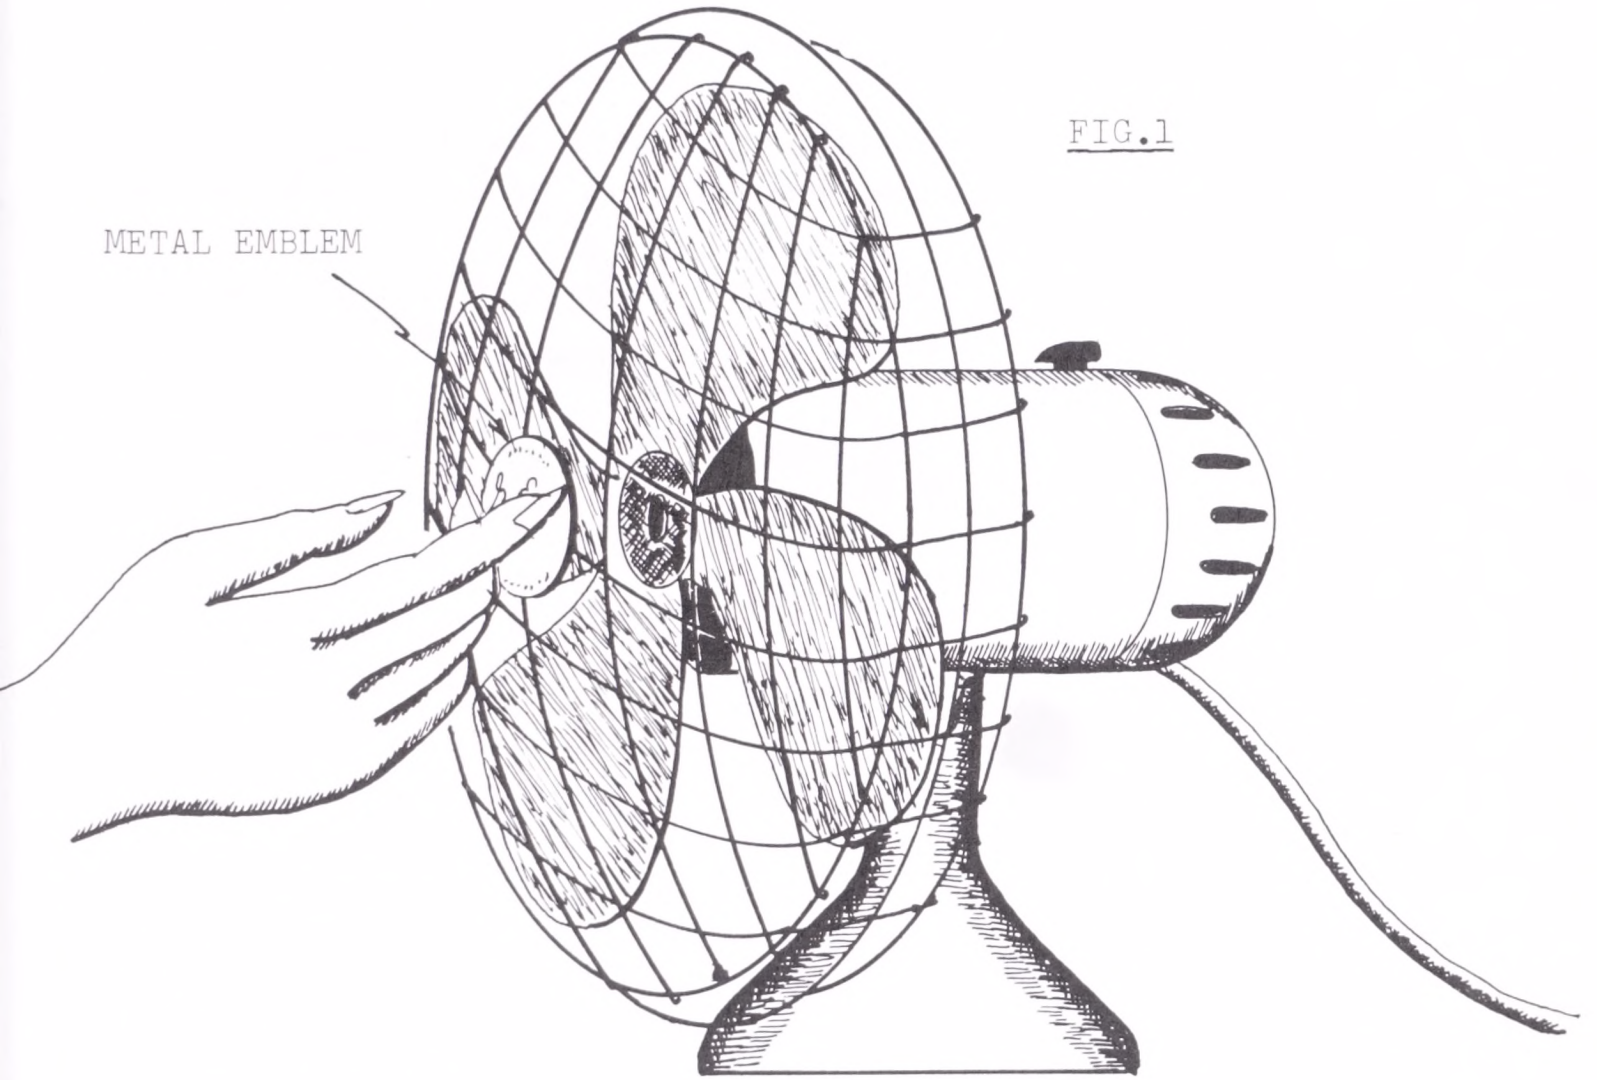

FIG.2
NOTE: Emblems (when used) are usually fastened to the blade guard with small metal tabs that fold over the blade guard wires. (*Figure 2*)
3. To tighten the emblem to the blade guard, switch off fan, remove the line cord from the wall outlet, and wait until fan blades come to a stop. Clamp the metal fastening tabs securely around the blade guard wires with a pair of pliers. (*Figure 2*)